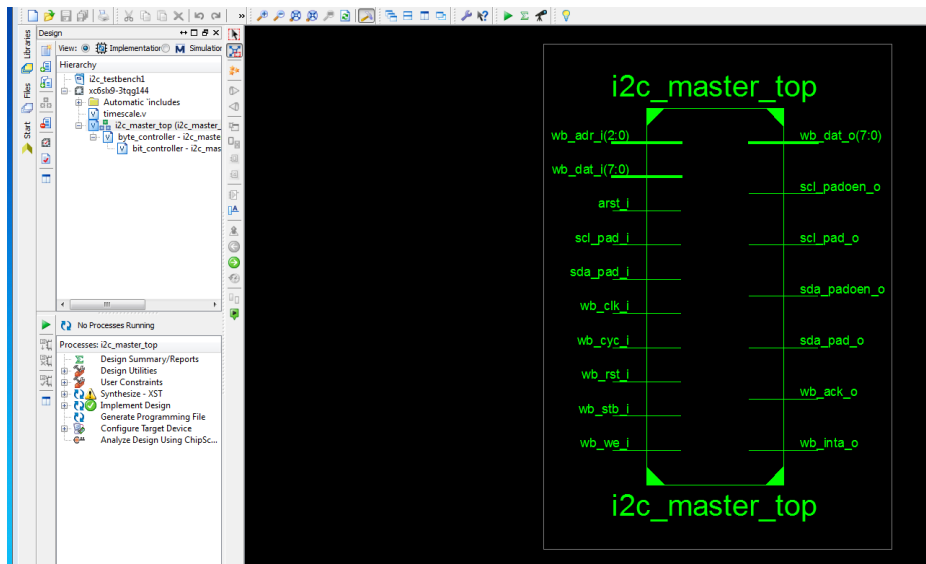

Figure 4-8 Top-level RTL schematic view
5. At this point I like to take a quick look at the RTL schematic view of the design using the Tools → Schematic Viewer menu option. This gives us a good visual of the I/O pins the test bench will be connecting to (see Figure 4-8). You can also check out the file hierarchy in the Design panel.